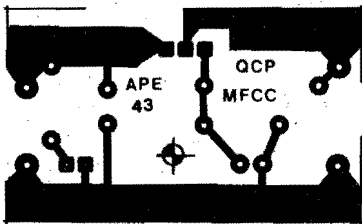

Fig.4
- FIG. 4 - LAY OUT DO IMPRESSO DO MÓDULO FONTE PARA C.C. (MFCC)